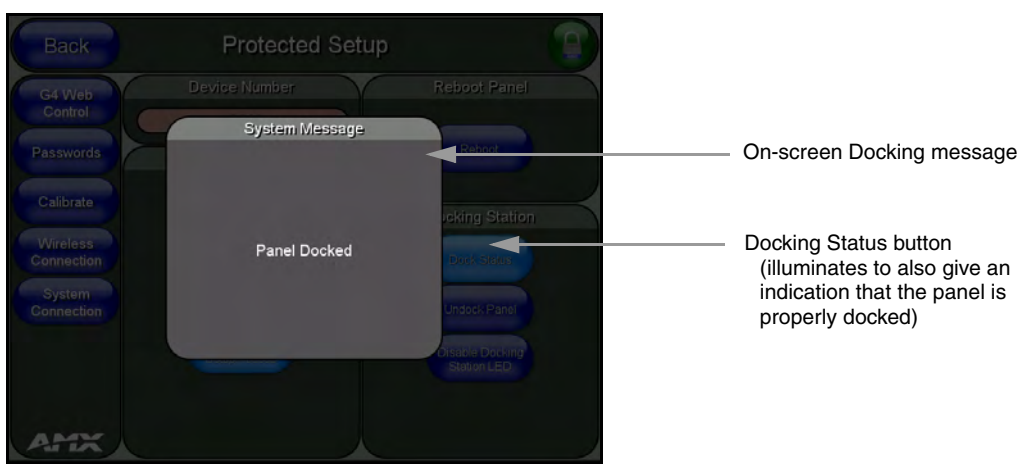

FIG. 4 System message - panel is properly docked
- When the MVP is properly docked, the following message is displayed on the panel (FIG. 4).